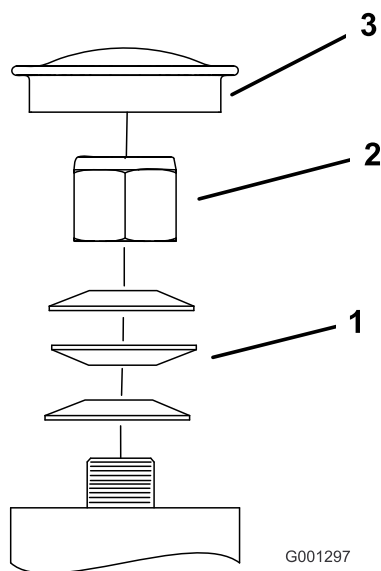

Figure 50
3. Remove the dust cap from caster and tighten lock nut (Figure 50).
4. Tighten the locknut until the spring washers are flat and then back off a 1/4 turn to properly set the pre-load on the bearings (Figure 50).
Important: Make sure spring washers are installed correctly as shown in Figure 50.
5. Install the dust cap (Figure 50).